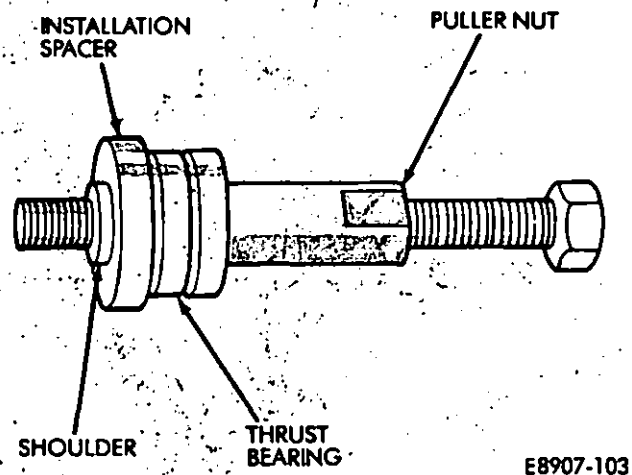

Fig. 11—Water Pump Pulley Installer
- (1) Place thrust bearing between puller nut and installation spacer (Fig. 11). Make sure that shoulder of installation spacer pilots inside water pump pulley hub. When the shoulder stops against the end of water pump shaft the pulley is installed to the correct position on the water pump shaft.
- (2) Thread puller/installer bolt into water pump shaft until it stops. Back off bolt one turn.
- (3) Holding puller/installer bolt in place, turn puller nut clockwise until slack between nut,